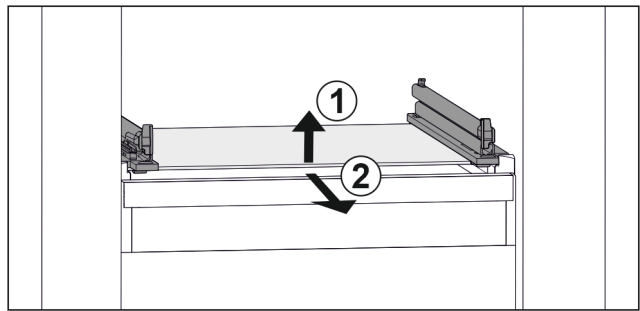

Fig. 98 Example illustration of glass shelf
- ▶ Lift glass shelf at the front Fig. 98 (1)
- ▶ Take out glass shelf to the front Fig. 98 (2)